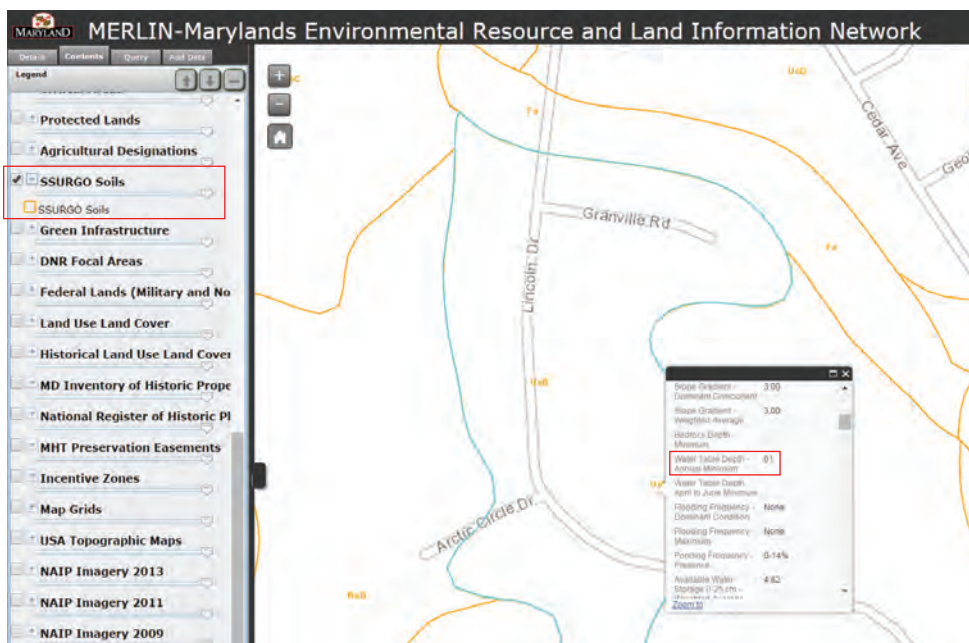

Figure B.4: Screenshot of web-based tool, MERLIN, showing soil data and groundwater level (Source: MD Department of Natural Resources)
- Maryland's Environmental Resource and Land Information Network (MERLIN) is a user-friendly mapping tool that contains information on all kinds of natural resources in Maryland. **Figure B.4** shows a screenshot of MERLIN with the soil data layer selected and shown. Clicking on an area of the map with this data layer on will show a variety of data, including the high groundwater level (in red box).